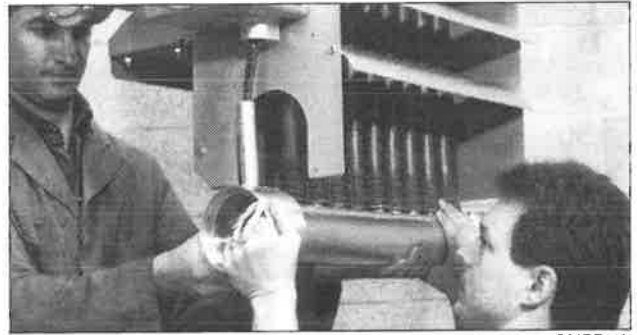

FIGURE 10
4. With an assistant supporting the weight of the core, remove the 3 core mounting bolts. Carefully lower the core out of the cabinet (see Figure 10).